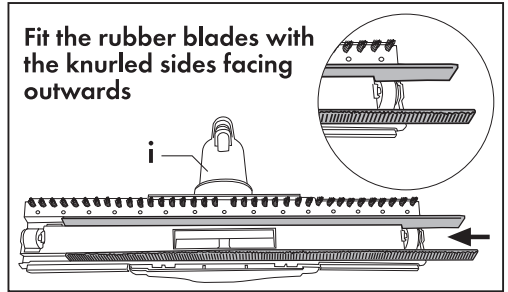

Fig. 7
- Rubber blades are suitable for cleaning hard surfaces and allow for effective steam collection. They should be installed with the knurled sides facing outwards (i), Fig.7